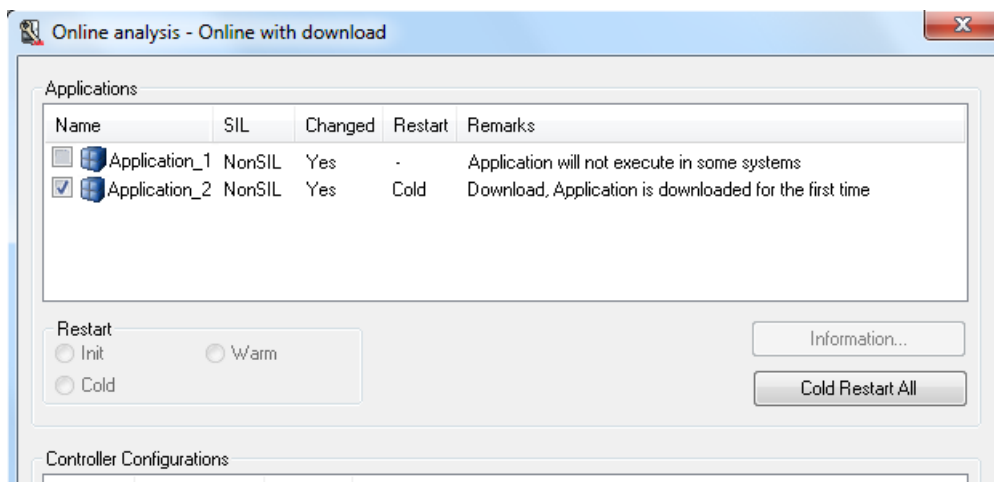

Figure 63. Connected applications to a controller. Only Application 2 will be downloaded.
2. Select the application to be downloaded. See the example in Figure 63.